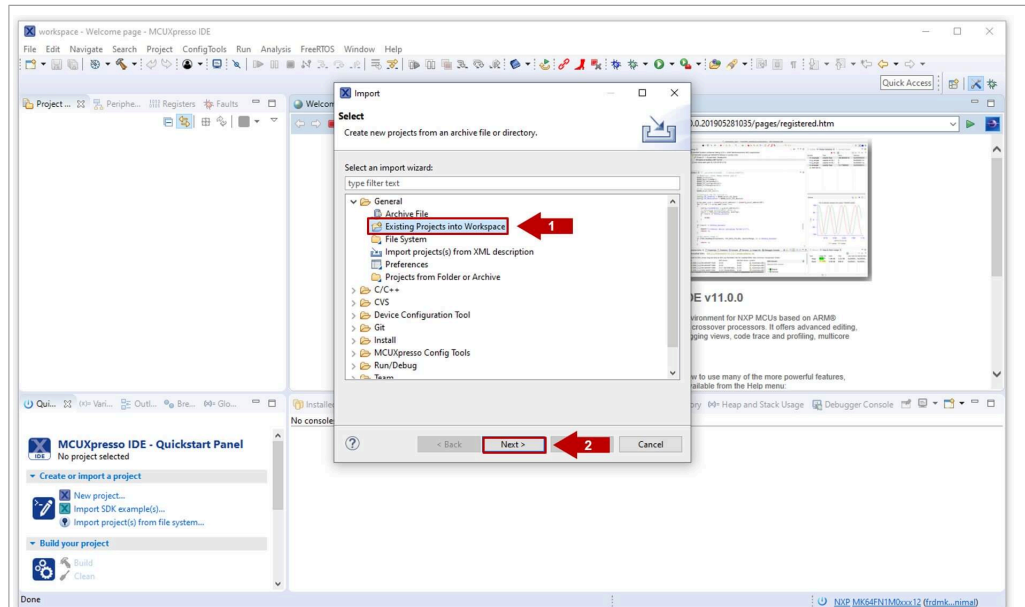

Figure 39. Import a project (II)
2. In the import wizard menu, (1) select *Existing Projects into Workspace* from the *General* folder, then (2) click on *Next* as shown in Figure 39: